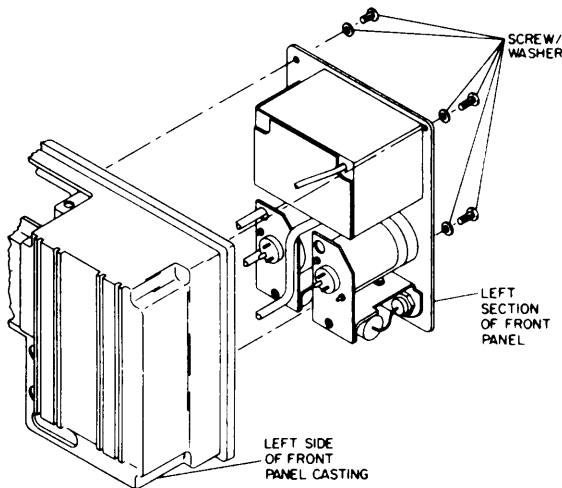

Figure 5-8. Left Section of Front Panel, Removal of Counter
g. ACCESS TO AF-RF AMPLIFIER A1A20, A CHANNEL VARIABLE ATTENUATOR A1A21, B AND C CHANNEL VARIABLE ATTENUATOR AND TRIGGER LEVEL CONTROLS A1A22 and A1A23, B AND C SLOPE SWITCHES A1S10, AND A1S12, MODE SELECTOR SWITCH A1S9, AND CONNECTORS A1J1, A1J2, A1J3, A1J4, AND A1J5. — These attenuator assemblies and parts are mounted on the left section of the front panel, and become accessible when the left section of the front panel is removed from the chassis (figure 5-8). To remove the left section of the front panel, remove the three screws (one at the bottom and two at the top), then slide it slowly forward and out of the chassis.